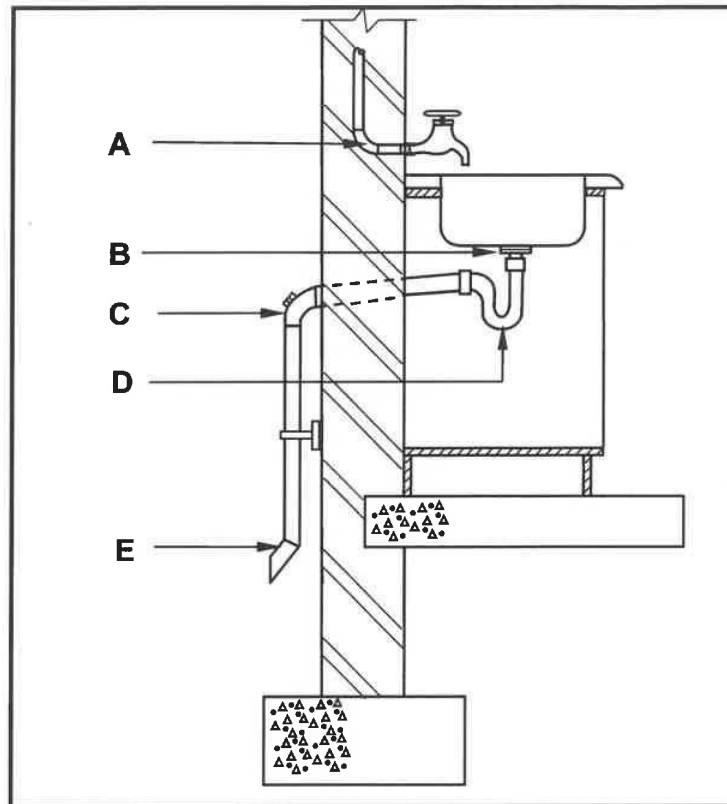

FIGURE 6.2
6.2 FIGURE 6.2 below illustrates a sink installation.